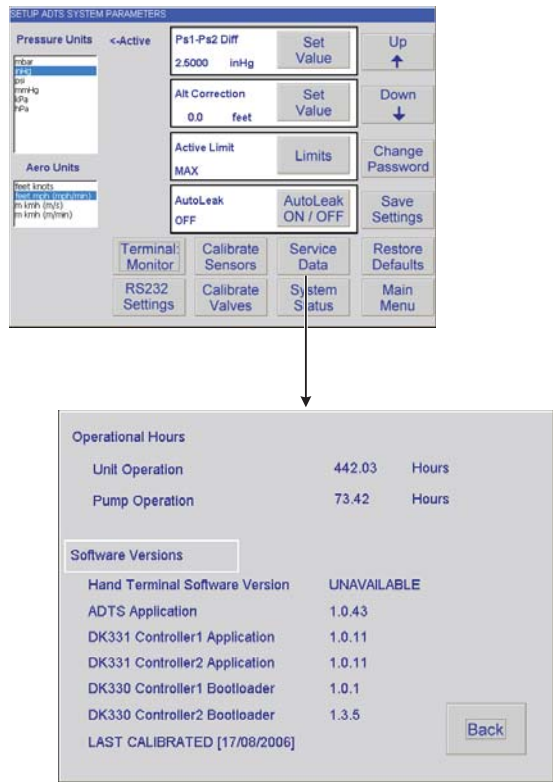

FIGURE 4-1 SERVICE DATA
- A Check that all the equipment is present; record any deficiencies. Visually inspect the external of the ADTS 2XX, and its associated equipment, for obvious signs of damage, dirt, and the ingress of moisture. If necessary, use mild liquid detergent (item 2, Table 4-2) and a lint-free cloth (item 1, Table 4-2) to clean the external surfaces. Inspect the pressure outlet ports and expansion ports for ingress of dirt and moisture, clean if necessary with a lint-free cloth.
- B Visually inspect the pneumatic output connectors for damage. Inspect the small o-ring on each pneumatic output connector for cuts and any signs of wear; replace as necessary. Visually inspect pneumatic hoses, electrical cables for cuts, splits and damage; replace as necessary. Check, by entering the system set-up, service data (figure 4-1 below) the unit and pump operational hours. At 1000 hours (filters) and 3000 hours (pump) return the unit to the servicing depot for maintenance.